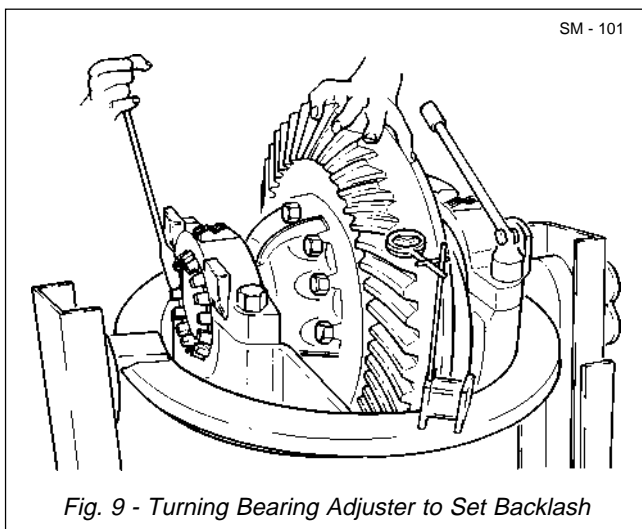

Fig. 9 - Turning Bearing Adjuster to Set Backlash
Bearing adjusters (25) have two basic functions: pre-loading cups (26) and cones (27); and positioning ring gear (29) to obtain the correct backlash between the ring gear and pinion gear (15). See Fig. 9. The bearing adjuster (25) located on the same side of pinion gear (15) as ring gear (29), pushes the ring gear